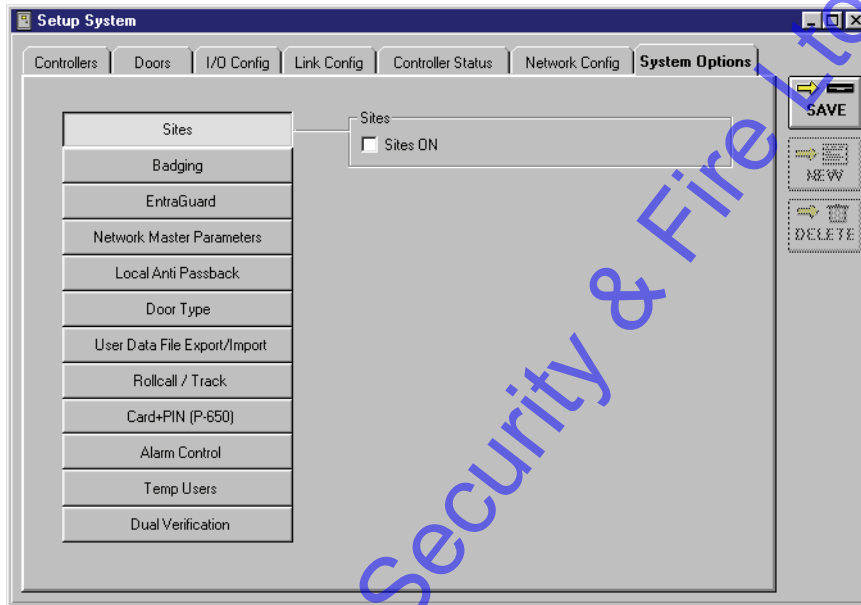

Figure 8-1: System Options Tab - Sites Disabled
The Multiple Sites: Sites ON check box is used to enable the multiple sites feature (see Figure 8-1).
2. If the Sites ON field is not already visible on the System Options tab, click on the  button. The System Options window will reveal the field for enabling multiple sites (see Figure 8-1).